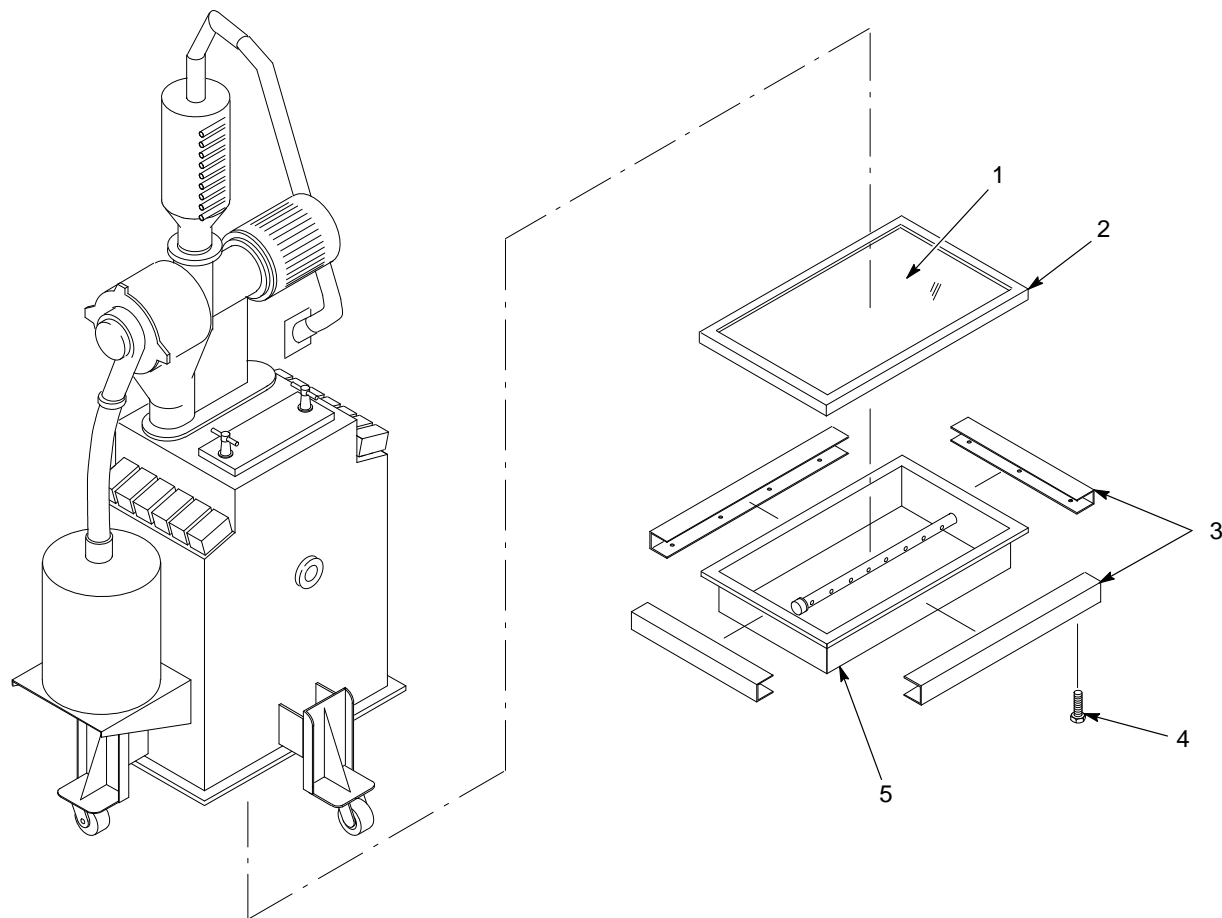

Figure 6-5 Feed Hopper Fluidizing Plate Replacement
1. See Figure 6-5. Block up the plenum (5) so the plenum and feed hopper flanges will not bend when you start removing the clamping channels (3).
2. Loosen screws (4) about 6–10 mm (0.25–0.375 in.) to clear the gasket (2). Remove the clamping channels.
3. Remove the plenum and the fluidizing plate (1) from under the feed hopper.